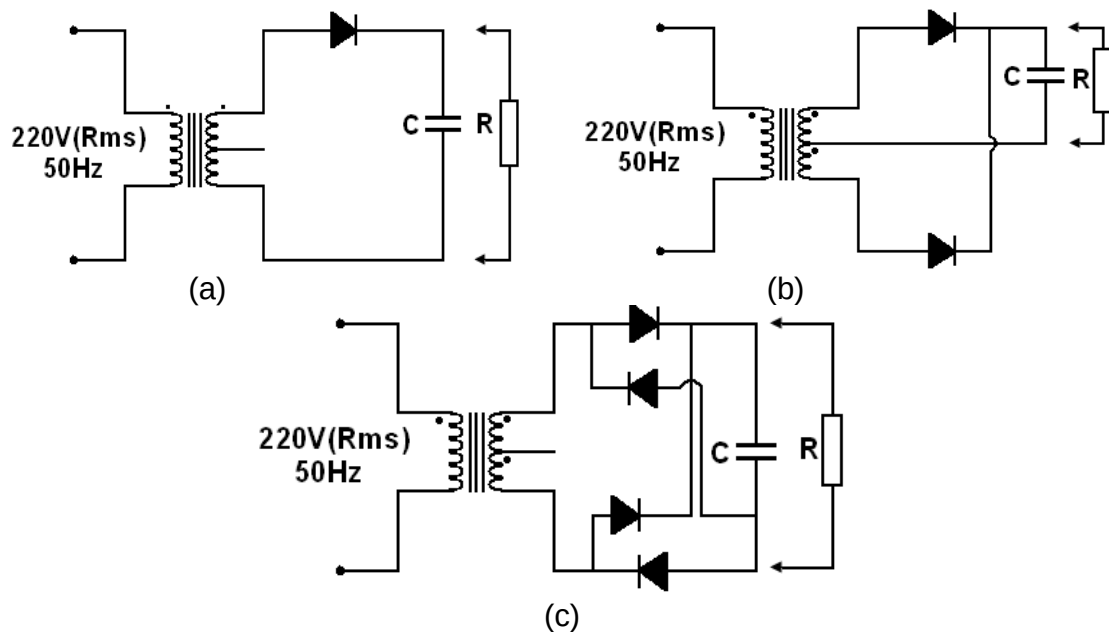

Fig 2: Peak detector circuit with loading
When a capacitor is connected in series with a diode as shown in fig 2 (a), then the capacitor always gets charged up to the highest available peak. The capacitor remains at the peak unless it gets discharged.
1. Connect the circuit as shown in fig 2 (a).
1. Connect the circuit as shown in fig 2 (b).
1. Connect the circuit as shown in fig 2 (c).